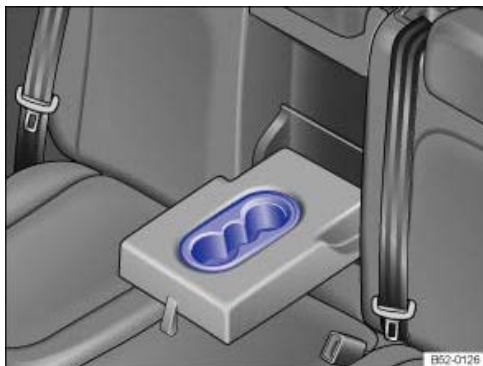

Fig. 205 In the rear centre armrest: drink holders.
- To *open*, fold the centre armrest down → Fig. 205.
- To *close*, fold the centre armrest up → Fig. 205.